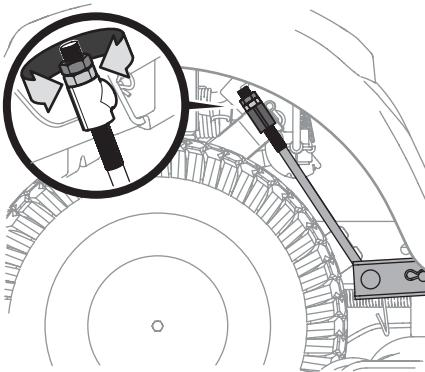

Figure 4-6
- Under the rear fenders inside the wheels there is a lift adjustment rod for each side of the deck. See Figure 4-6.